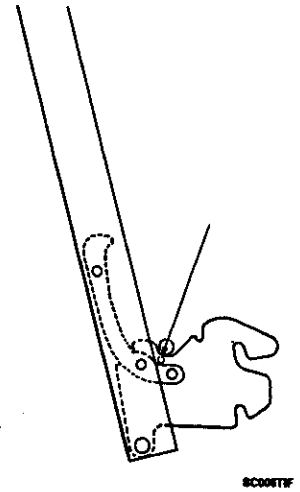

Figure 2-1
2. Place an 1/8" pin in the hole on the right and left door hinges, see *Figure 2-1*.